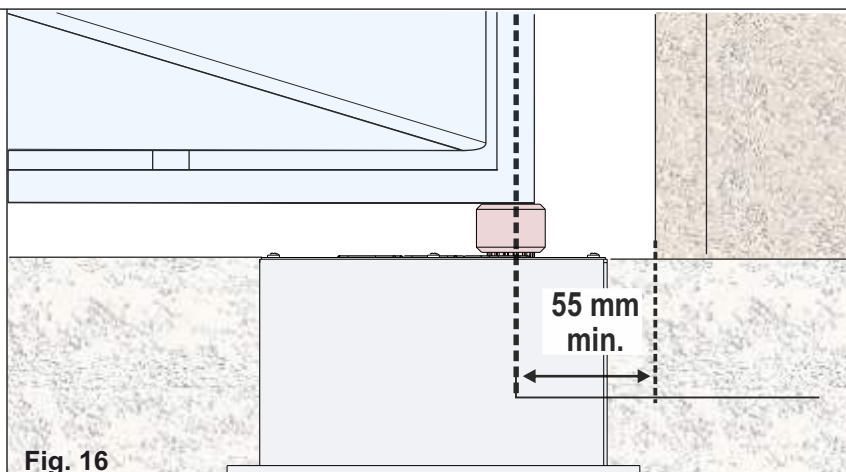
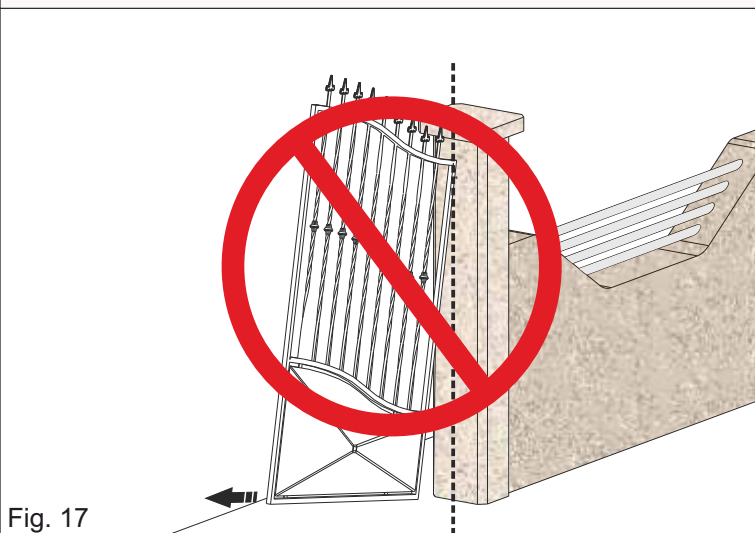

Fig. 16
Fig. 17
4.4. Caution! Do not place the leaf outside the axes (Fig. 17 and 18); make sure that the shaft coincides with the rotation axis of the jack (Fig. 16)
⚠ DO NOT PLACE THE LEAF OUTSIDE THE AXES (FIG. 17 - 18); MAKE THE SHAFT COINCIDE WITH THE ROTATION AXIS OF THE LEAF HINGE; THE MINIMUM DISTANCE FROM THE COLUMN MUST BE 55 MM (FIG. 16)